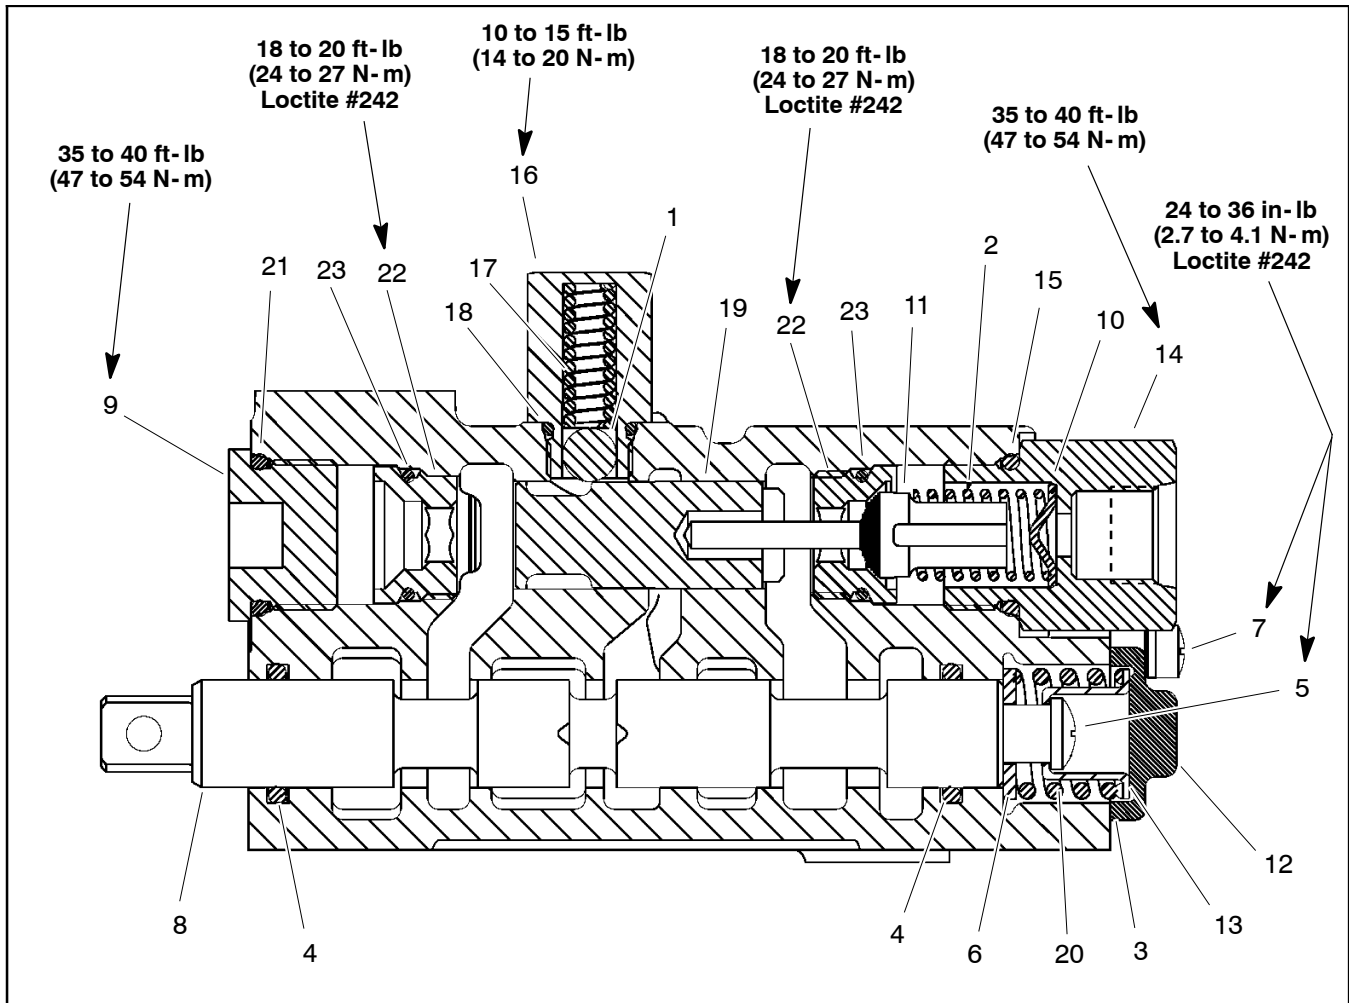
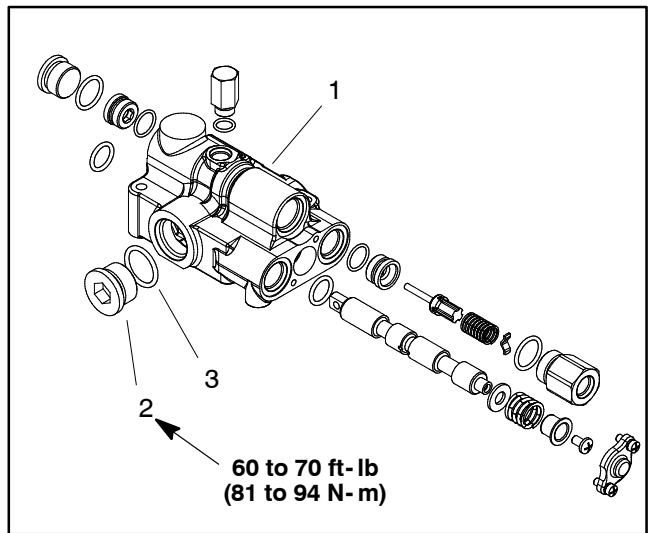

Figure 101
Figure 102
## Disassembly (Fig. 101)
2. Remove two (2) screws with lock washers (item 7) that secure end cap (item 12) to control valve. Remove end cap.
3. Retain spool to prevent it from turning. Remove screw (item 5), spacer (item 13), spring (item 20) and washer (item 6) from control valve.
4. Carefully slide spool (item 8) from housing bore.
5. Carefully remove O-rings (item 4) from spool bore. Take care to not damage spool bore or O-ring cavities during O-ring removal.
6. Remove detent plug (item 16), O-ring (item 18), spring (item 17) and detent ball (item 1).
7. Remove plug (item 9) with O-ring (item 21) and lockout seat (item 22) with O-ring (item 23) from valve body.
8. Remove adapter plug (item 14) with O-ring (item 15), poppet stop (item 10), spring (item 2) and poppet (item 11) from control valve body.
9. Remove lockout seat (item 22) with O-ring (item 23) from control valve body. Remove detent plunger (item 19).
10. If necessary, remove plug from control valve (Fig. 102). **Note:** If machine is equipped with optional rear lift kit, a fitting and sleeve will be installed in place of plug.
**Assembly (Fig. 101)**
5. Coat spacer (item 13), spring (item 20) and washer (item 6) liberally with MPG- 2 (or equivalent) grease. Apply Loctite #242 (or equivalent) to threads of screw (item 5). Install washer, spring and spacer into valve and secure with screw. Retain spool to prevent it from turning and torque screw from **24 to 36 in-lb (2.7 to 4.1 N-m)**.
6. Apply Loctite #242 (or equivalent) to threads of screws (item 7).
7. Position gasket (item 3) and end cap (item 12) to control valve. Secure end cap to valve with two (2) screws with lock washers (item 7). Torque screws from **24 to 36 in-lb (2.7 to 4.1 N-m)**.
8. Lubricate detent plunger (item 19) with clean hydraulic oil and slide into control valve bore.
9. Install new O-rings (items 23) to lockout seats (items 22). Apply Loctite #242 (or equivalent) to threads of lockout seats. Install seats into control valve. Torque seats from **18 to 20 ft-lb (24 to 27 N-m)**.
10. Lubricate poppet (item 11), spring (item 2) and poppet stop (item 10) liberally with clean hydraulic fluid and install into control valve bore. Make sure that stop extends into spring coils after installation.
11. Install adapter plug (item 14) with new O-ring (item 15) and plug (item 9) with new O-ring (item 21) into control valve. Torque plugs from **35 to 40 ft-lb (47 to 54 N-m)**.
12. Install new O-ring to detent plug (item 16). Lubricate detent ball (item 1) and spring (item 17) with clean hydraulic fluid and install into detent plug.
14. If plug was removed, carefully thread plug into control valve housing (Fig. 102). Torque plug from **60 to 70 ft-lb (81 to 94 N-m)**.